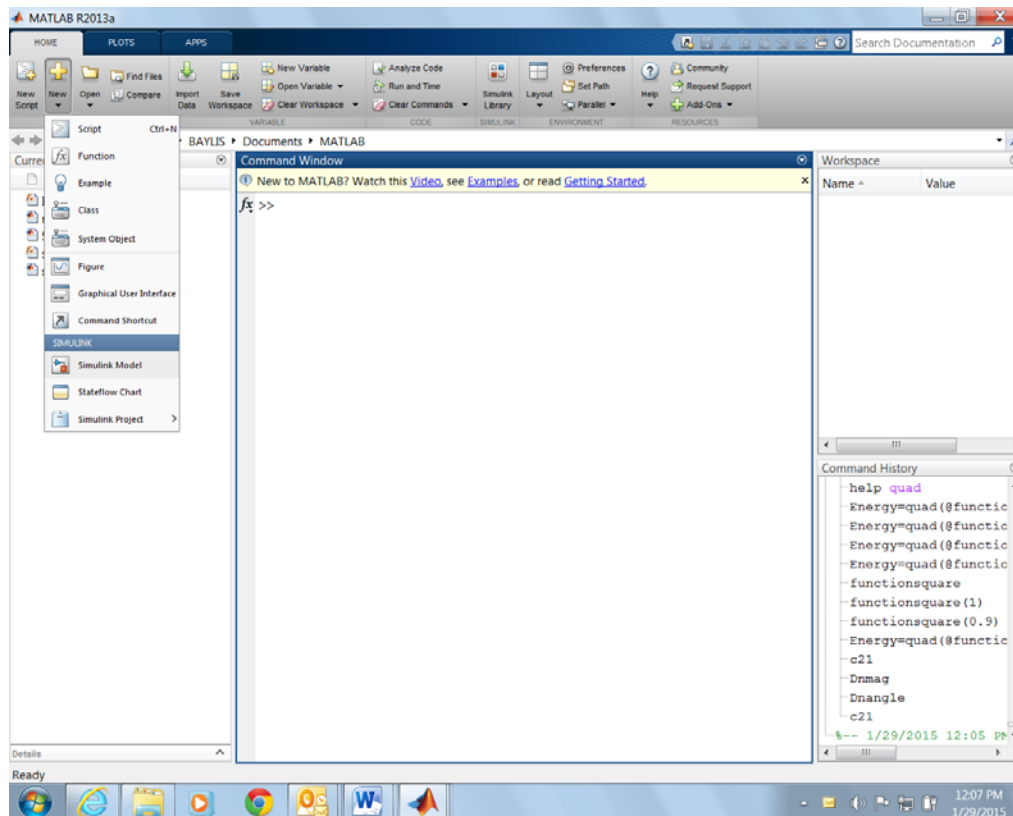
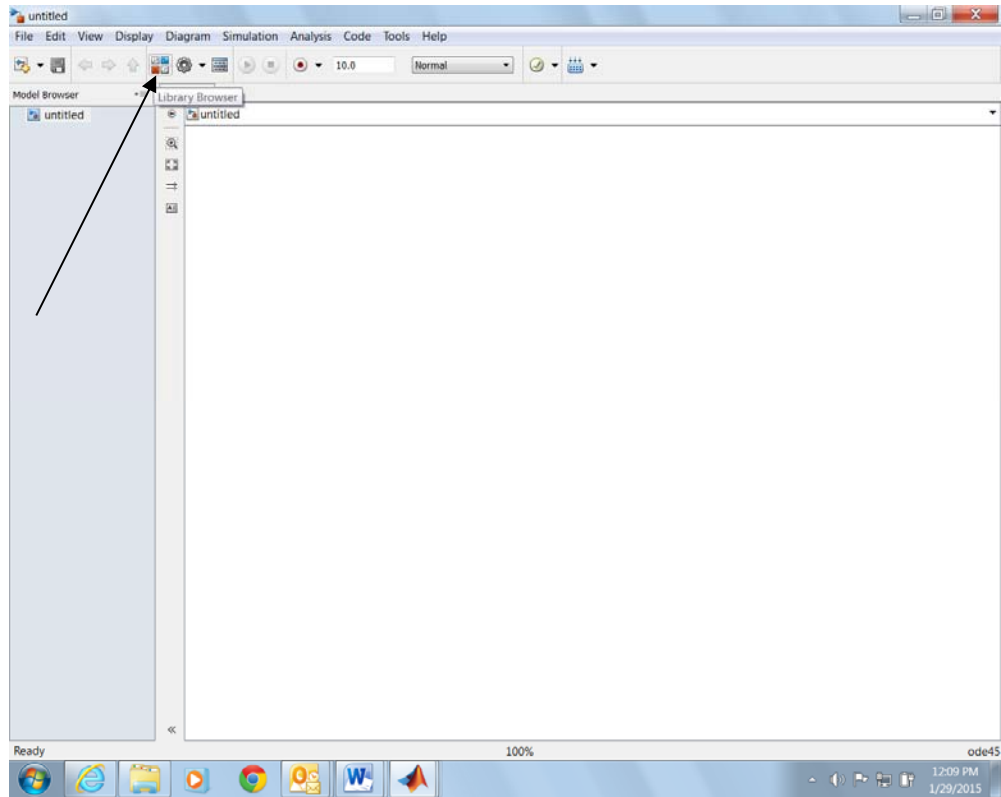
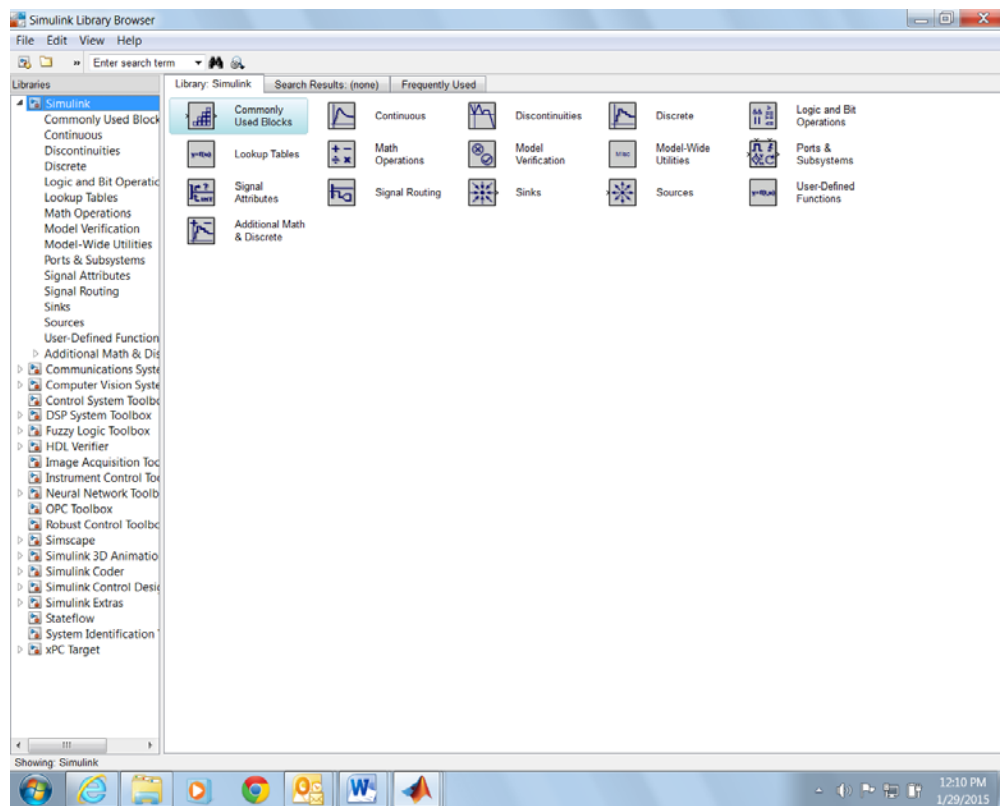

Figure 1. Opening a New Simulink Model
Figure 2. Opening the Library Browser
Figure 3. Simulink Library Browser
- Cover sheet including your name, the name and number of the course, and the project number (2).
- Description of results and answers to questions organized as given below with plots included as numbered figures (“Figure 1”, “Figure 2”, etc.). The Figures should be placed at appropriate places within the body of your descriptions.
You will create a system model in Simulink, a subprogram operated within and by MATLAB. To create a new model in Simulink, go to New → Simulink Model in the main MATLAB window (Figure 1). Once in the Simulink window, click on the “Library Browser” button, as shown in Figure 2. This will open a window (Figure 3). From the menu, you can select items to place in your system block diagram.